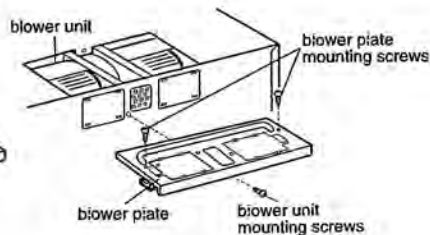

Figure 21
6. Reattach blower plate to microwave oven. Attach with the one blower unit mounting screw and then the one or two blower plate mounting screw(s). See Figure 21.